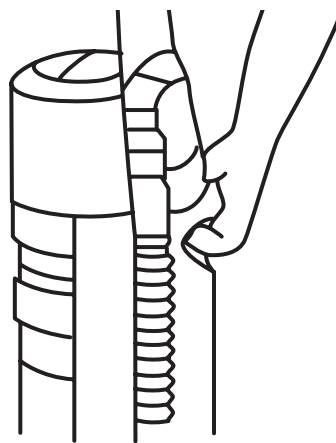

Figure 6a
2. Locate the Carry Handle on the top of the Battery Pack at the back of the Vacuum Cleaner. (See Figure 6a.)